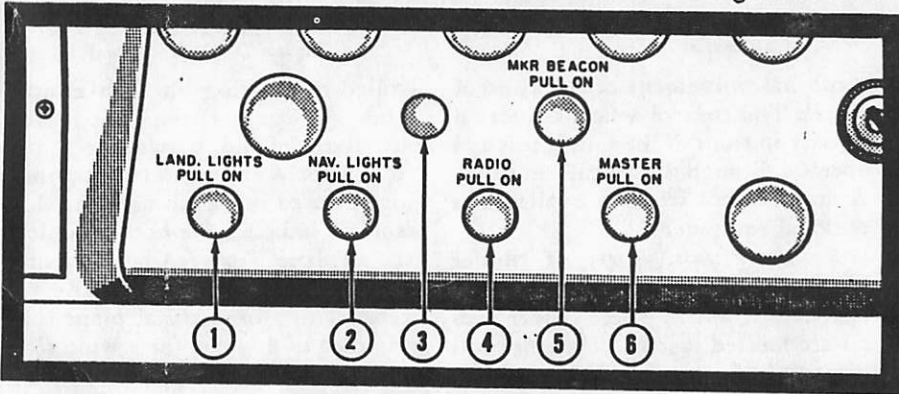

Figure 2. Electrical Switch Panel
21. Electrical Switch Panel (See figure 2)
**Master Switch.** The master switch (6, figure 2) is the first knob to the left of the cigarette lighter. Switch positions are "ON" (out position) and "OFF" (in position). When the master switch is turned "ON", a solenoid switch is energized and the electrical power of the battery is admitted into the electrical system. In event of a short or malfunctioning of the airplane electrical system, the master switch may be turned off and the engine will con-
left wing tip, a green light on the right wing tip, and a white light on the trailing edge of the rudder. The navigation light switch (2, figure 2) is mounted on the instrument panel. To turn the navigation lights on, pull the navigation light switch out. To turn the lights off, push the switch in.
**Landing Light (Optional Equipment).** The landing light consists of two lamps mounted side-by-side in the leading edge of the left wing. One of the lamps is adjusted to give proper illumination of the runway during landing and take-off while the other lamp is set to provide illumination of the ground for taxiing purposes. The landing light switch (1, figure 2) is mounted on the instrument panel. To turn the taxi light on, pull the switch out to the first stop. To turn both the landing light and the taxi light on, pull the switch out to the second stop. To turn lights off, push the switch all the way in.